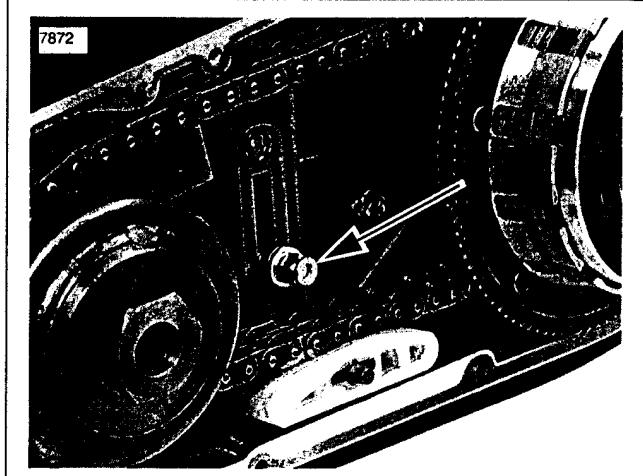

Figure 6-6. Chain Tensioner Top Center Nut
2. See Figure 6-6. Loosen top center nut from chain tensioner.
1. See Figure 6-6. Loosely install chain tensioner and top center nut to fasten chain tensioner assembly onto captured bolt inside of primary chaincase. Verify chain tensioner shoe is resting on bottom lip of primary chaincase.